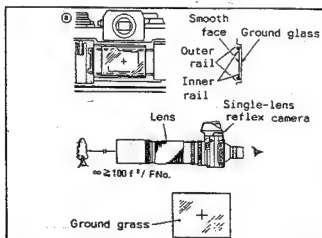

Fig. II-48
- (1) Open the aperture of single-lens reflex camera fully. Then, open the rear lid.
- (2) Secure the ground glass to the inside rail face by pressing it. At this step, the ground surface should face the lens side.
- (3) Shoot a scene at infinity. To check if it is in best focus, enlarge the image on the ground glass by a magnifier.
* Note: Distance for infinity: See the Fig. II-48.
- (4) After the above checking, remove the ground glass once and mark cross hair-lines on it. Then, attach it to the camera again.